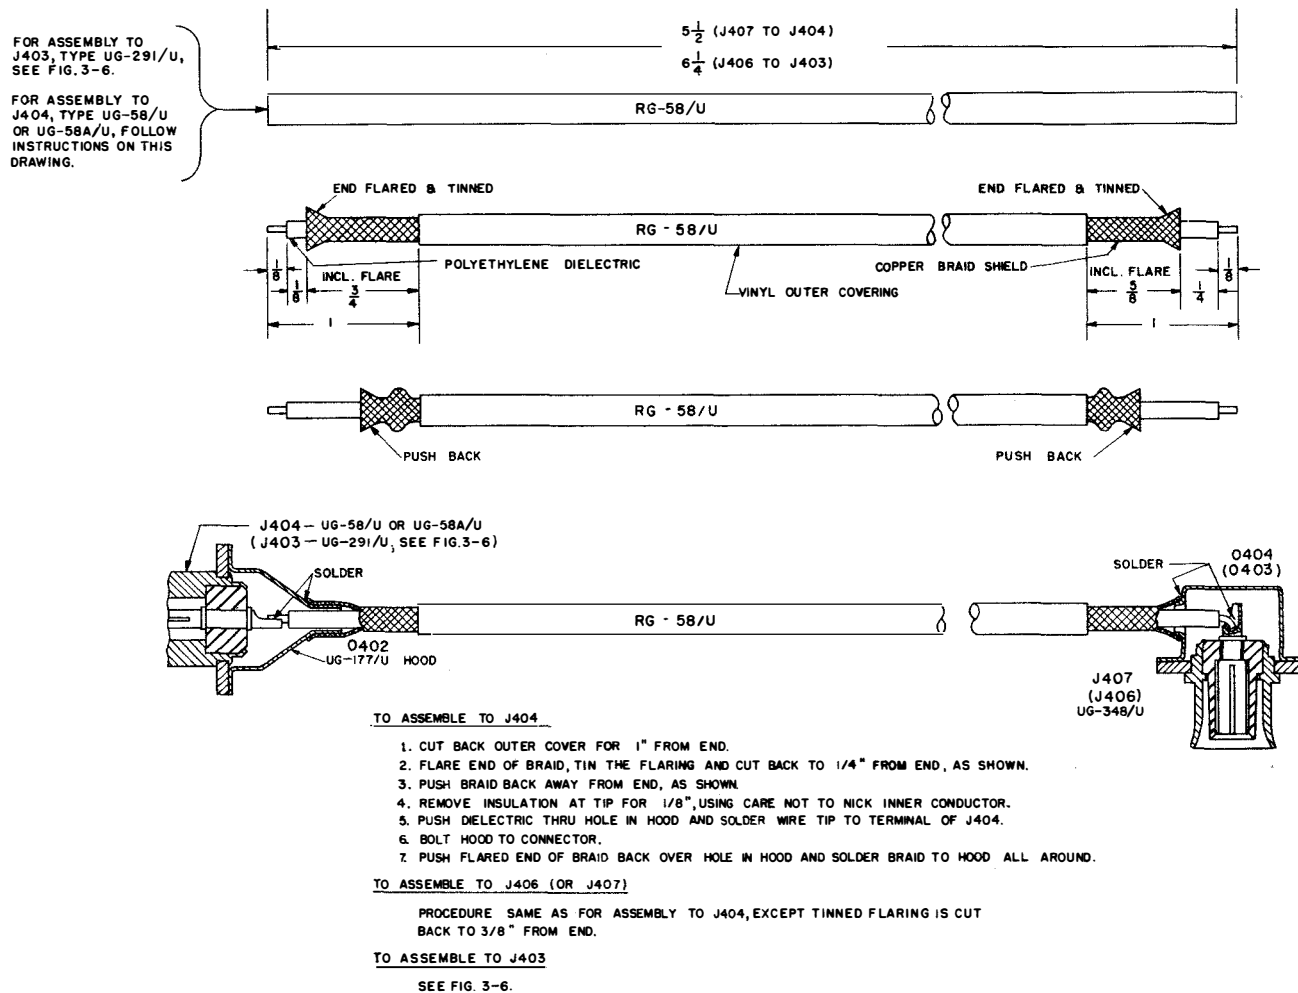

Figure 7-22. Assembling R-F Cable to Connectors J403, J404, J406 and J407
*b.* R-F CABLE ASSEMBLIES.—Several r-f cable assemblies are used in Radio Receiver R-482A/URR-35 and in Low-Pass Filter F-218/URR-35. Unless subjected to physical abuse or abnormal conditions of operation, these cables should not require repair or replacement. However, in the event that replacement is found necessary, detailed instructions for the fabrication of the cable assemblies are included in figures 7-22 through 7-25, inclusive. Fabrication instructions for the external r-f cables used with the receiver appear in figures 3-6 and 3-7.